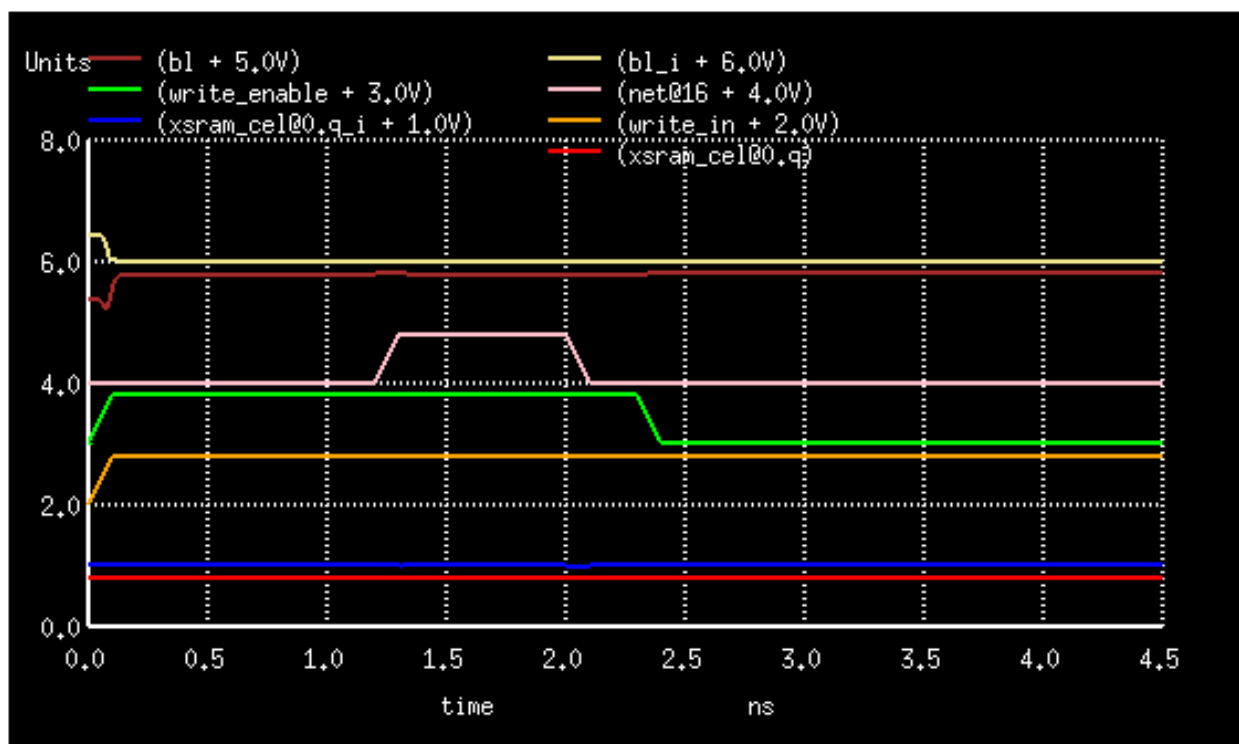

Figure 9: Writing 1
4. Writing a 1 to a cell with 1 (Figure 9). This is the same case as (3) in that the cell already starts with  $Q = 1$ , but we instead write a 1.